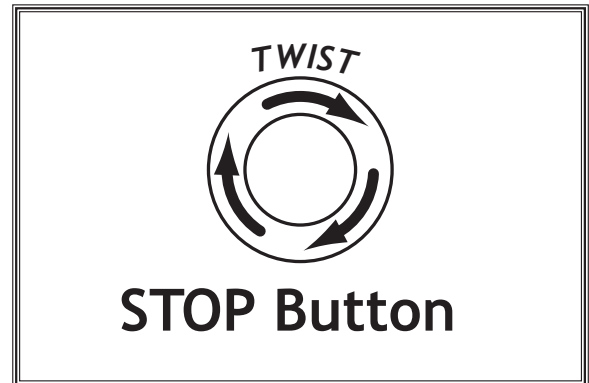

Figure 5. Resetting the switch.
4. Twist STOP button clockwise until it springs out (see **Figure 5**). This resets the switch so the machine can start.